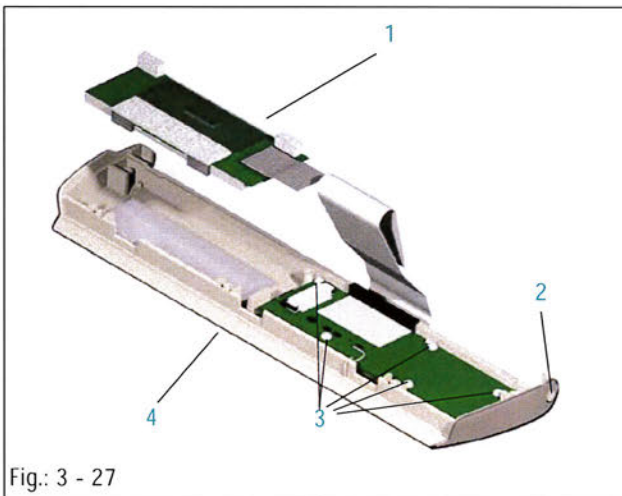

Fig.: 3 - 27
6. Pull the LC display ribbon cable (Fig.: 3 - 26 / Item 1) out of the connector.
Legend to fig. 3 - 27: